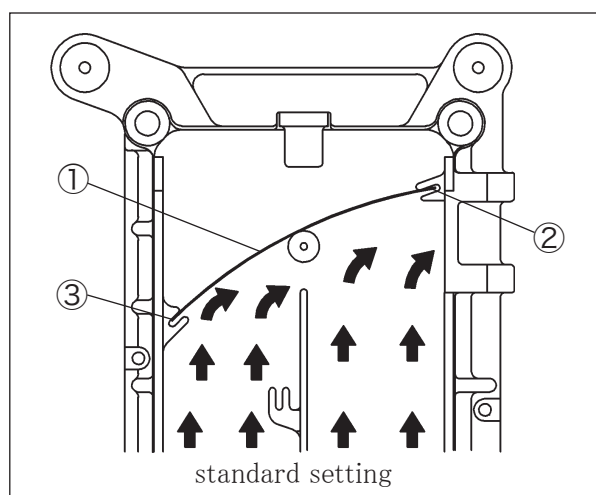

Fig. 7-2
To set the standard position, insert the air deflector ① into the guides ②③. (See Fig. 7-2)